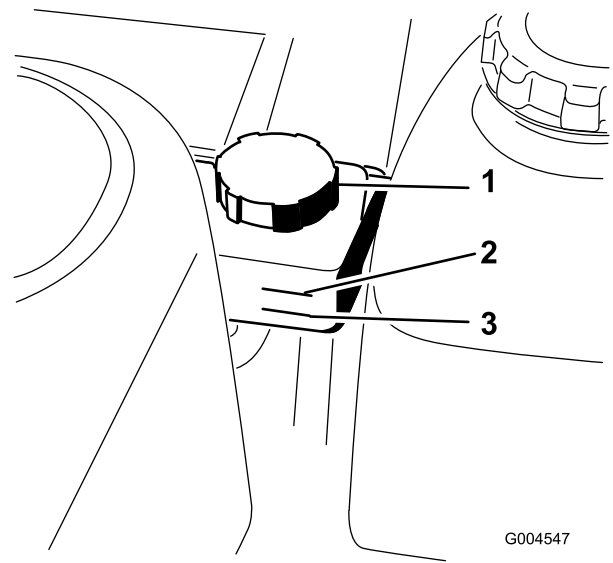

Figure 50
Note: There are two ways of checking the hydraulic oil; when the oil is warm or when the oil is cold. The tank has two levels depending if the oil is warm or cold (Figure 50).
2. Clean the area around the hydraulic tank (Figure 50).
5. If fluid is needed, remove the cap from the filler neck (Figure 50).
8. Add oil until it reaches the cold line on the hydraulic tank (Figure 50).
13. Repeat items 11 and 12 as necessary until all the air is completely purged from the system. When the transaxle operates at normal noise levels and moves smoothly forward and reverse at normal speeds, then the transaxle is purged.